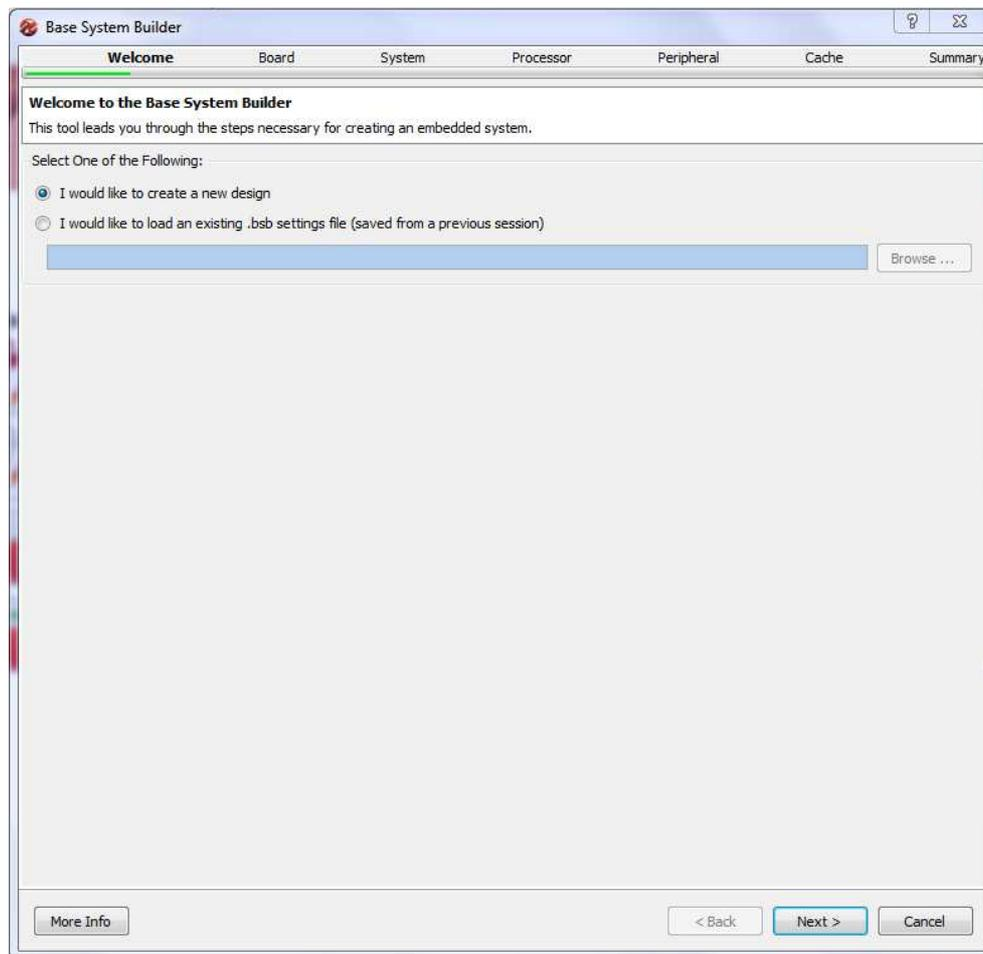

Figure 4. Base System Builder - Welcome Screen (Step 4)
When done press “OK”. This will start the “Base System Builder” tool that will help us build and configure the hardware system as shown in **Figure 4**.
**Step 4:** The welcome screen shown in **Figure 4**, is the first screen in the Base System Builder wizard that will guide you to build your system. In this screen select **“I would like to create a new design”** and then press next. This will let you create a new design.